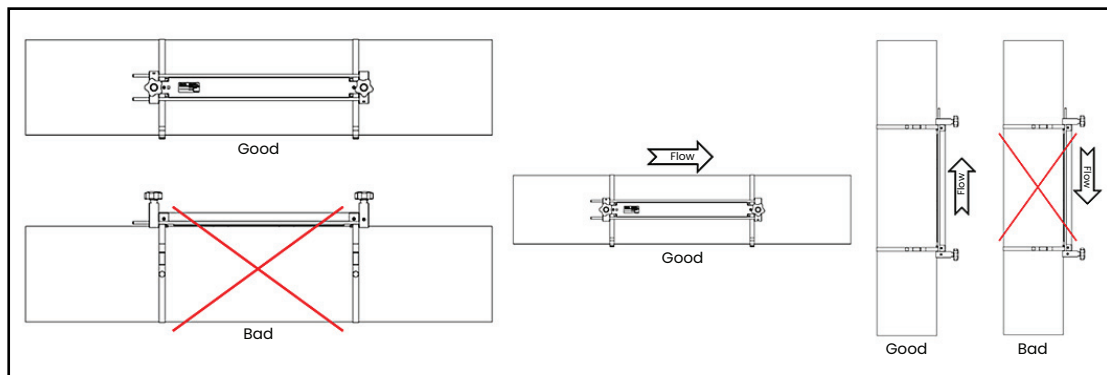

Figure 8: Good and bad transducer locations
- Locate the transducers on a common axial plane along the pipe (see *Figure 8* below). The transducers should be mounted on the side of the pipe, rather than the top or bottom, because the top of the pipe tends to accumulate gases and the bottom tends to accumulate sediment. Either condition may cause excessive attenuation of the ultrasonic signal. There is no similar restriction with vertical pipes, as long as the flow direction is upward to prevent free falling of the fluid in a partially filled pipe.